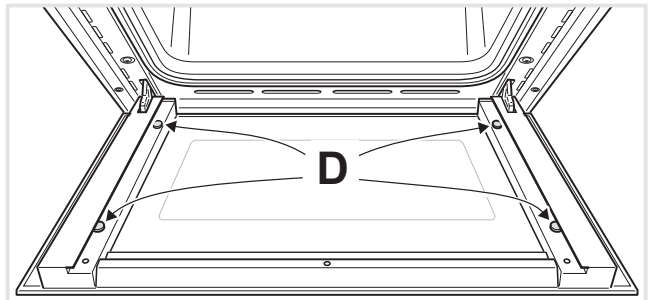

Figure 32a
- Check that the four rubber pads are in place (“D” in Fig. 32a).